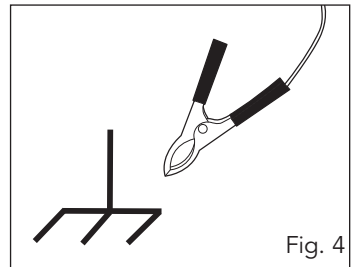

Fig. 4
2. Connect the black negative terminal clamp (7) to an unpainted piece of metal on the bodywork away from the battery (fig. 4).